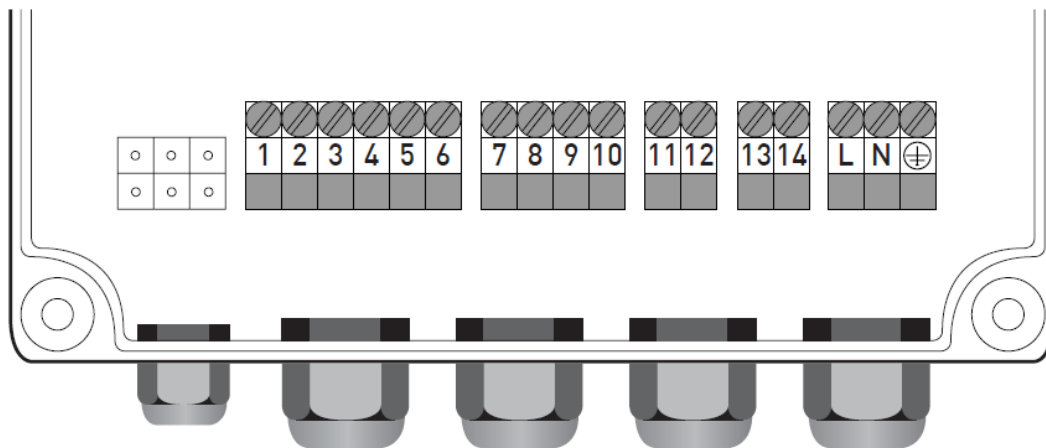

Figure 2
1. Connect the alarm to relay 1 or 2 (figure 2)